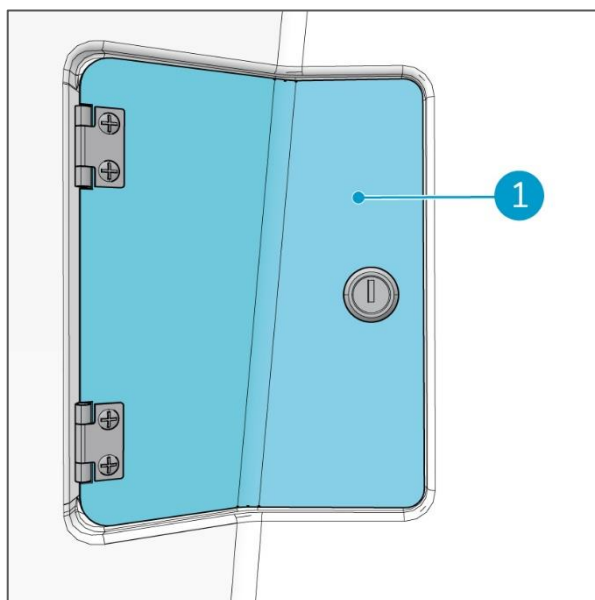

Figure 22
Behind the i-mop lite you can find a personal locker (Figure 22, pos 1) where you can store personal belongings. It can be locked with a key supplied with the i-drive.